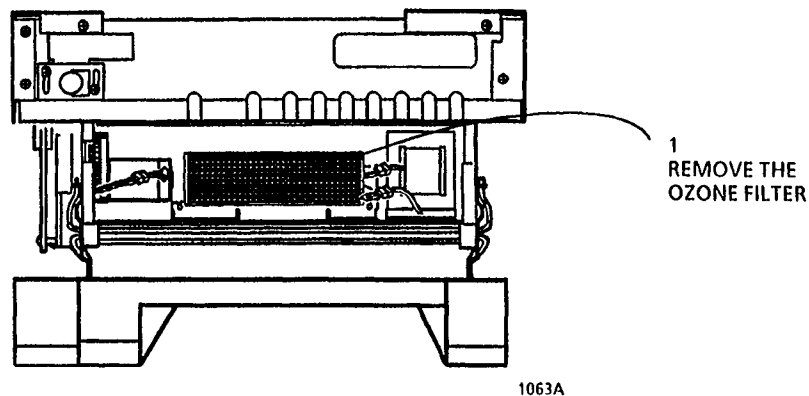

Figure 1. Removing the Ozone Filter
2. (Figure 1): Remove the Ozone Filter.